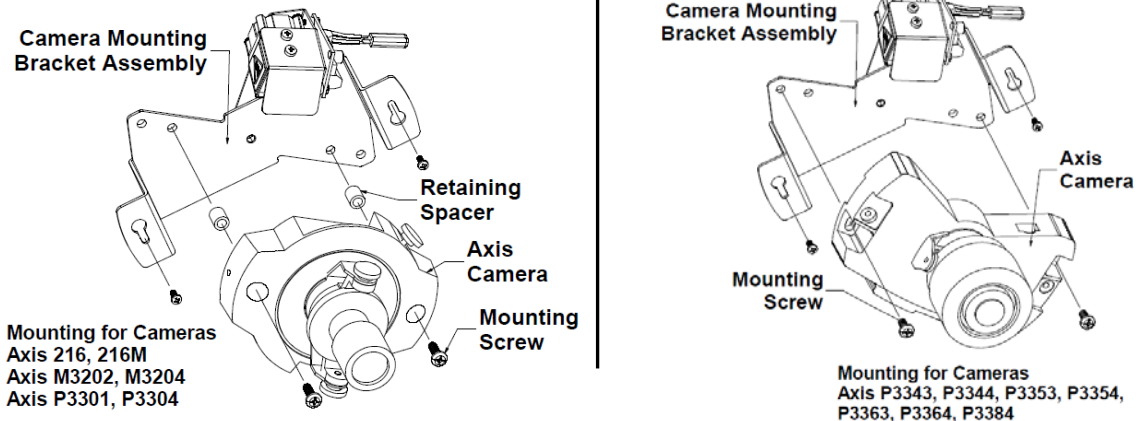

Figure 4
1. Install Camera on Camera mounting bracket (B) See Figure 4 to determine mounting pattern.